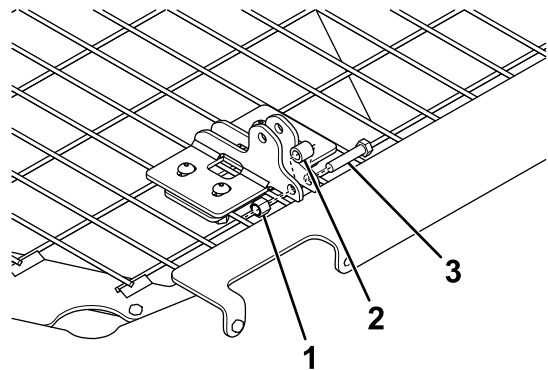

Figure 20
2. Secure a bushing to each mounting bracket using a bolt (3/8 x 1-3/4 inches) and nut (Figure 20).